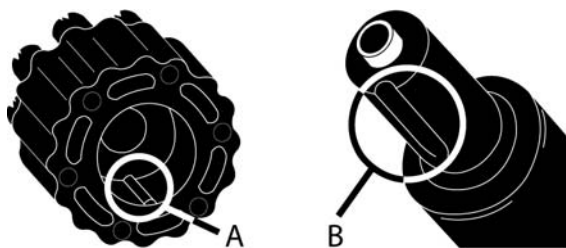

FIGURE 4
1. Align guide tab on inside of Utility Brush (FIGURE 4-A) with groove on bottom of Steam Jet Nozzle tip (FIGURE 4-B), and firmly press Utility Brush onto Steam Jet Nozzle.